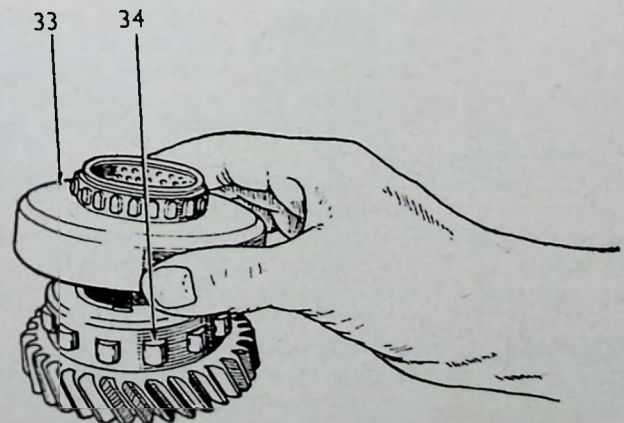

FIG. 44.—Fitting freewheel outer race with rollers in position.
With the gear flat on bench, insert 12 rollers (34) into the apertures in the cage where they will balance. Fit the outer race (33, Fig. 44) over the rollers, and remove wedge. Check the assembly for correct operation.